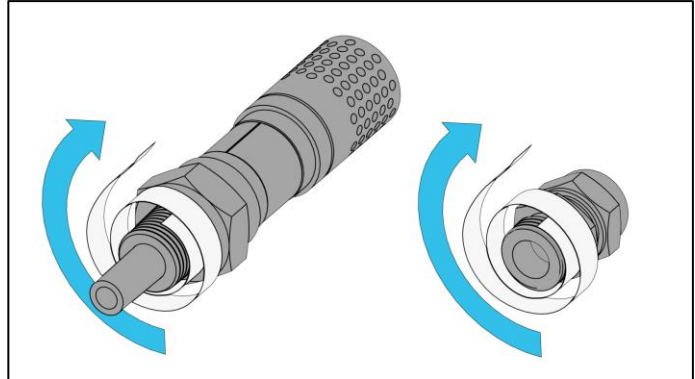

Figure 10: Direct mounted PTFE tape application
- 1) Apply two wraps of PTFE tape around the  $\frac{1}{2}$ " NPT threads of the sensor probe in the clockwise direction according to *Figure 10: Direct mounted PTFE tape application*. Screw the sensor probe into one of the two  $\frac{1}{2}$ " NPT ports on the bottom of the PCU, removing the port plug if there was one installed. Ensure the sensor probe is tightly screwed to the PCU expecting that the gland does not screw in all the way due to the PTFE tape.
- 1) Apply two wraps of  $\frac{3}{4}$ " wide PTFE tape around the gland threads in the clockwise direction according to *Figure 10: Direct mounted PTFE tape application*. Remove the port plug if one is installed and screw the gland into one of the two  $\frac{1}{2}$ " NPT ports on the bottom of the PCU. Ensure the gland is tightly screwed to the PCU expecting that the gland does not screw in all the way due to the PTFE tape.